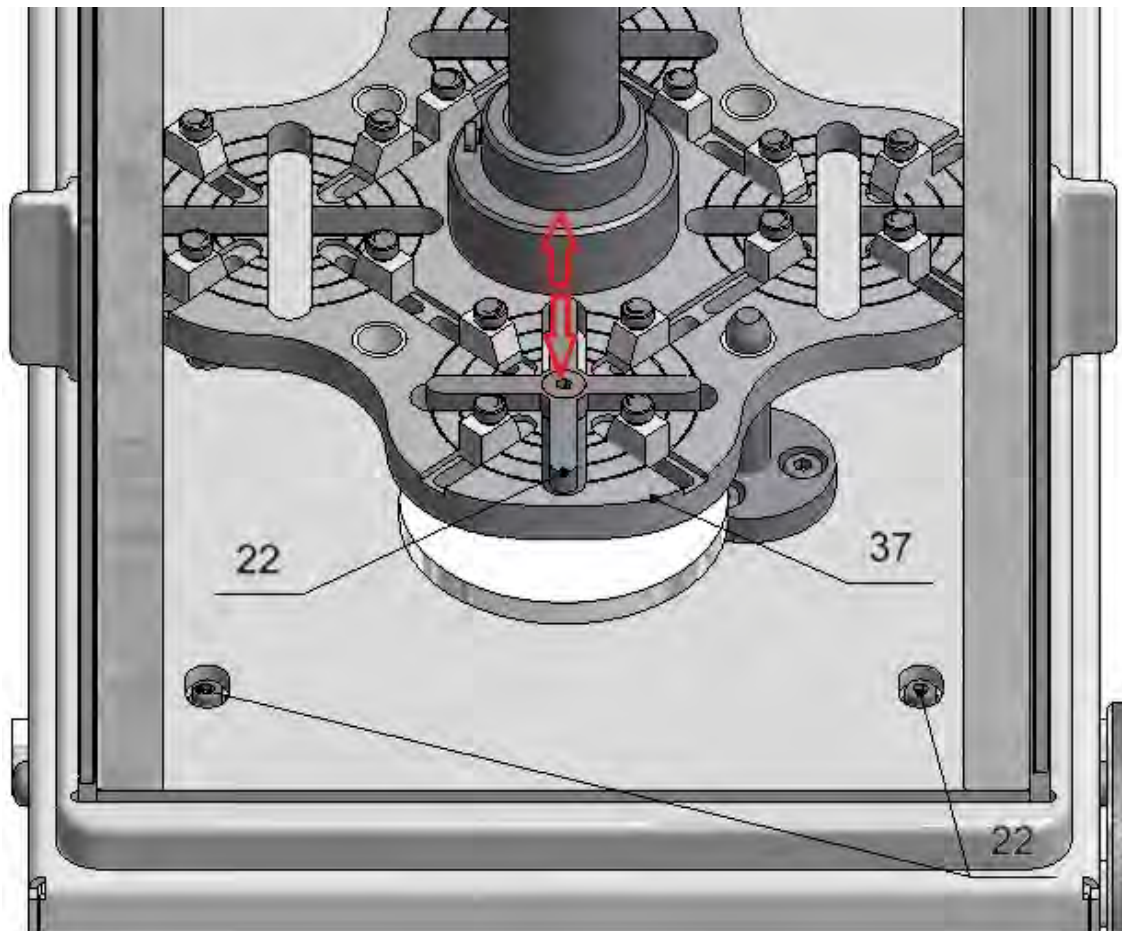

Fig. 13
27.5. Screw six M3 screws (27) and remove a weighing pan (22) together with a mandrel (23). (Fig.13)
27.6. Turn a plate (37) a quarter-turn, wait until the plate goes down and gets set in relation to a fixing mandrel, next put a weighing pan (22) on. (Fig.13)